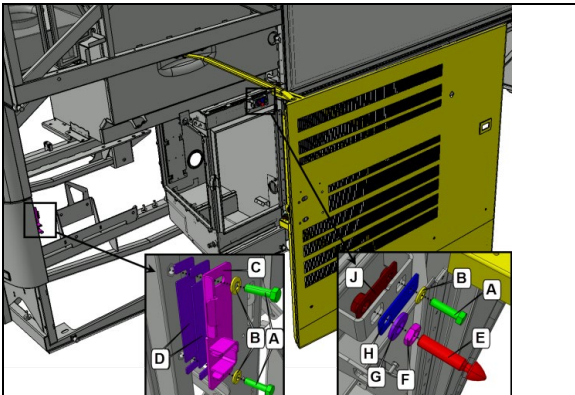

FIGURE 127
1. Install strike plate C and pin E centered in the available adjustment position provided by respective slotted holes (FIGURE 127). The components should be snug but not tight so that they can move when the door will be closed later on in this procedure.